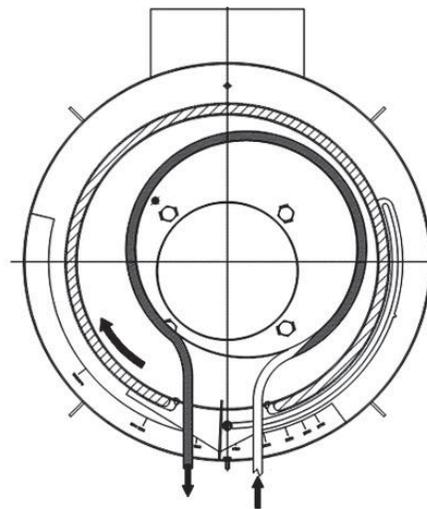

FIGURE-4.14
- Position the adjustable baffle in the center of the slide window of the silencer as shown in FIGURE-4.14.
- Remove the old element (dashed lines in FIGURE-4.14) following the arrow shown in FIGURE-4.14.